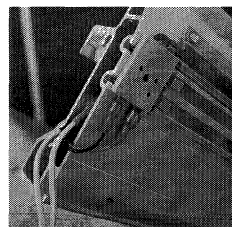

Fig. 16
- Stuff remaining harness into end of rail [Fig. 16].